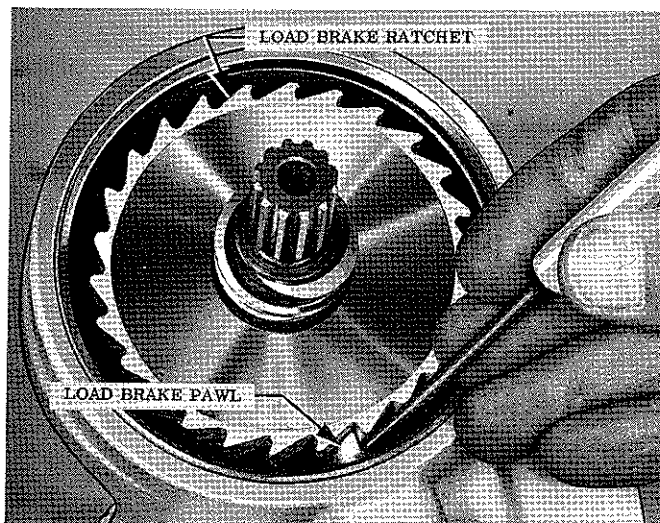

Figure 6-14. Installing Load Brake Ratchet
- a. When installing load brake ratchet, be certain the teeth face in the proper direction to match angle on end of brake pawl. See Figure 6-14. A probe should be used to depress the brake pawl to allow the ratchet to fall into place.